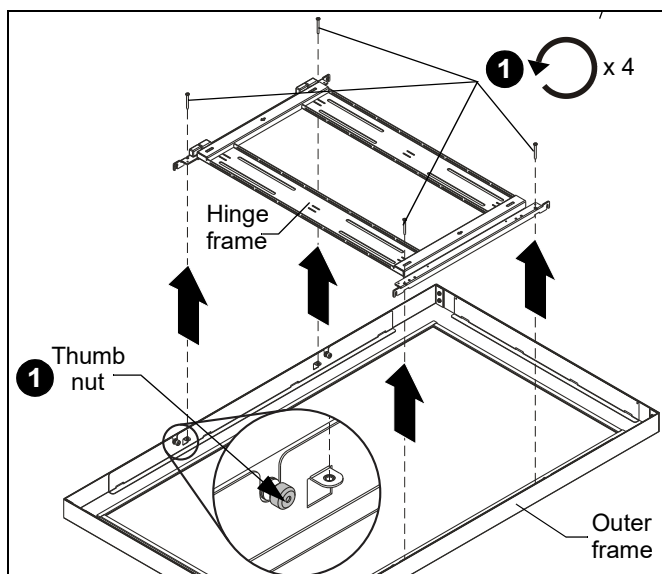

Figure 5
1. Remove and **SAVE** four Phillips screws, loosen four thumb nuts and remove hinge frame from outer frame of kiosk door. (See Figure 5)